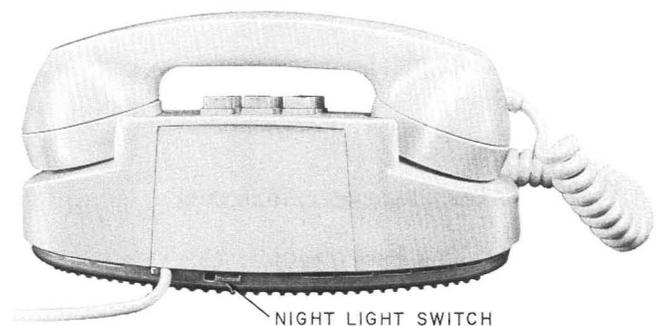

Fig. 6—2702B (MD) Telephone Set, Rear-Night Light Switch Location
2.08 These telephone sets are equipped with a concealed lamp which illuminates the dial when the handset is removed. This lamp also serves as a night light under control of a slide switch located in the base at rear of set (Fig. 6).